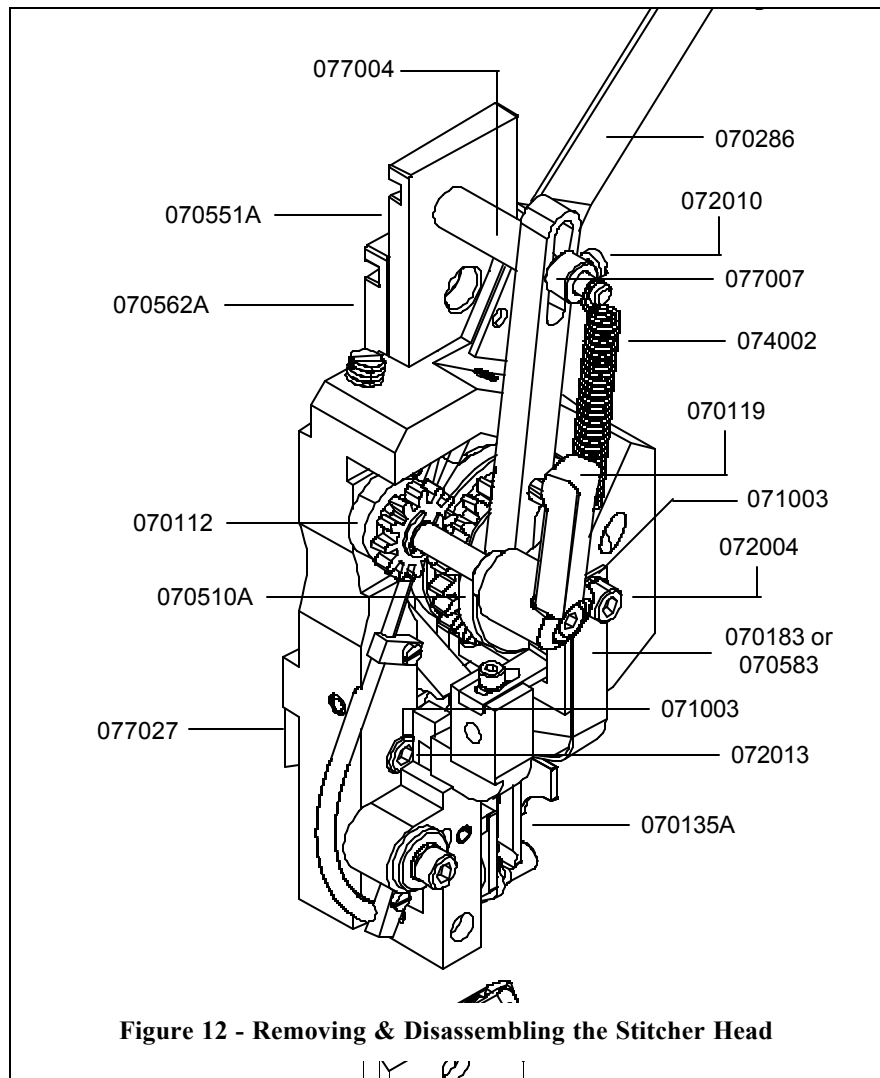
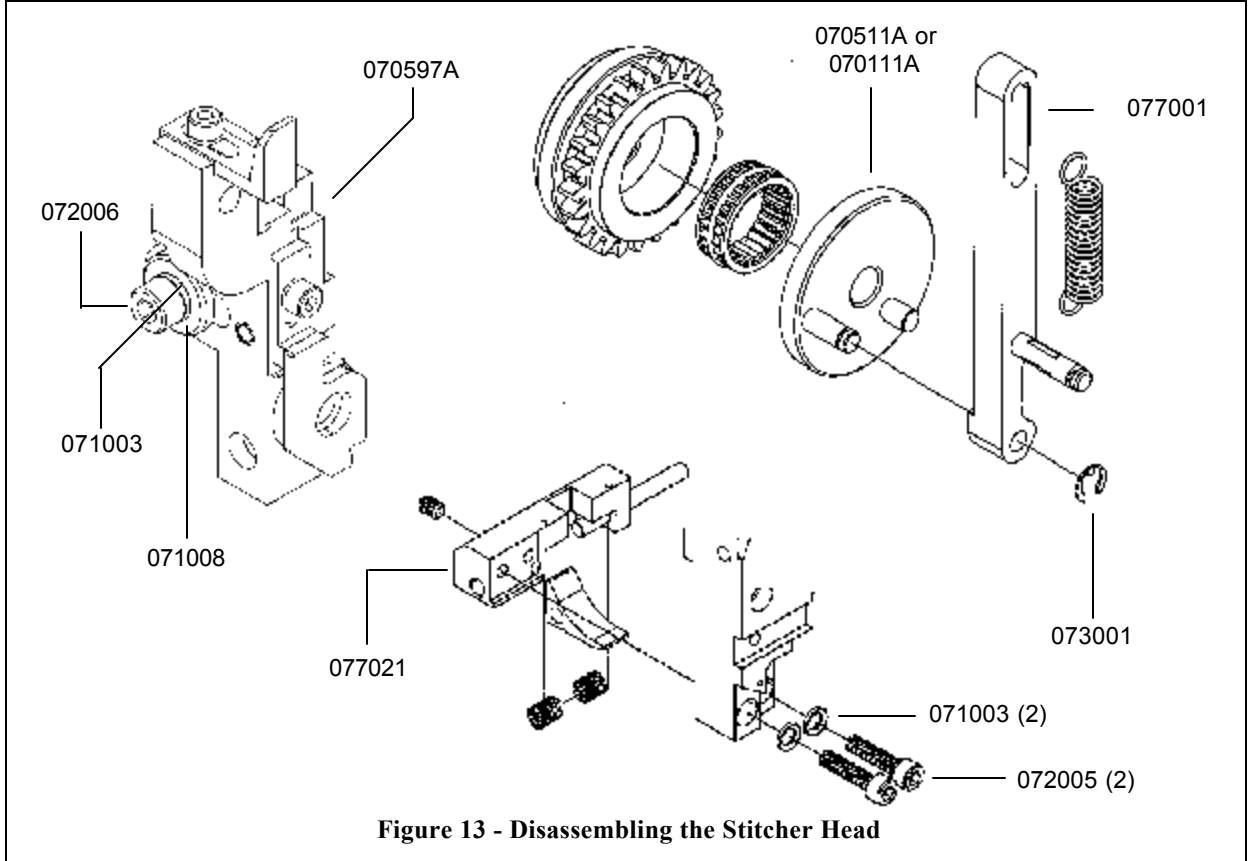

Figure 12 - Removing & Disassembling the Stitcher Head
Figure 13 - Disassembling the Stitcher Head
General Maintenance and Repair (Figure 12)
Loosen and remove the Screw (072004) along with the Washer (071003), securing the Wire Holder Spring (070183 or 070583) to the Bonnet. Refer to **Figure 12** for part number reference. Remove the Spring from the Head and the Wire Holder Assembly (070135A) from under the Spring Assembly. Disengage the Spring (074002) from the Driver Slide Shaft (077004) and from the Feed Gear Operating Lever Pin (043002). Loosen the Screw (072010) securing the Set Collar (077007) and remove it from the Driver Slide Shaft as well. Once the E-Ring (073001) is removed from the Feed Gear Pinion Assembly (070511A or 070111A), the Feed Gear Operating Lever Assembly (077001) can be removed from the Stitcher Head. Refer to **Figure 13** for part number reference.
To remove the Cutter Box Assembly (070597A) from the DB75 or DB75V Head, loosen and remove the Screw (072006), the Ribbed Washer (071003) and the Plain Washer (071008) securing the Assembly to the Head. Similarly, loosen and remove the two (2) Screws (072005) and the two (2) Ribbed Lock Washers (071003) securing the Supporter Block (077021) to the Bonnet. **(DB75V only)** Remove the Driver Slide Assembly (070551A) and Bender Slide Assembly (070562A) from the Bonnet. And then slide the Driver Slide Assembly out from the Bender Slide Assembly. Refer to **Figure 12** for part number reference.